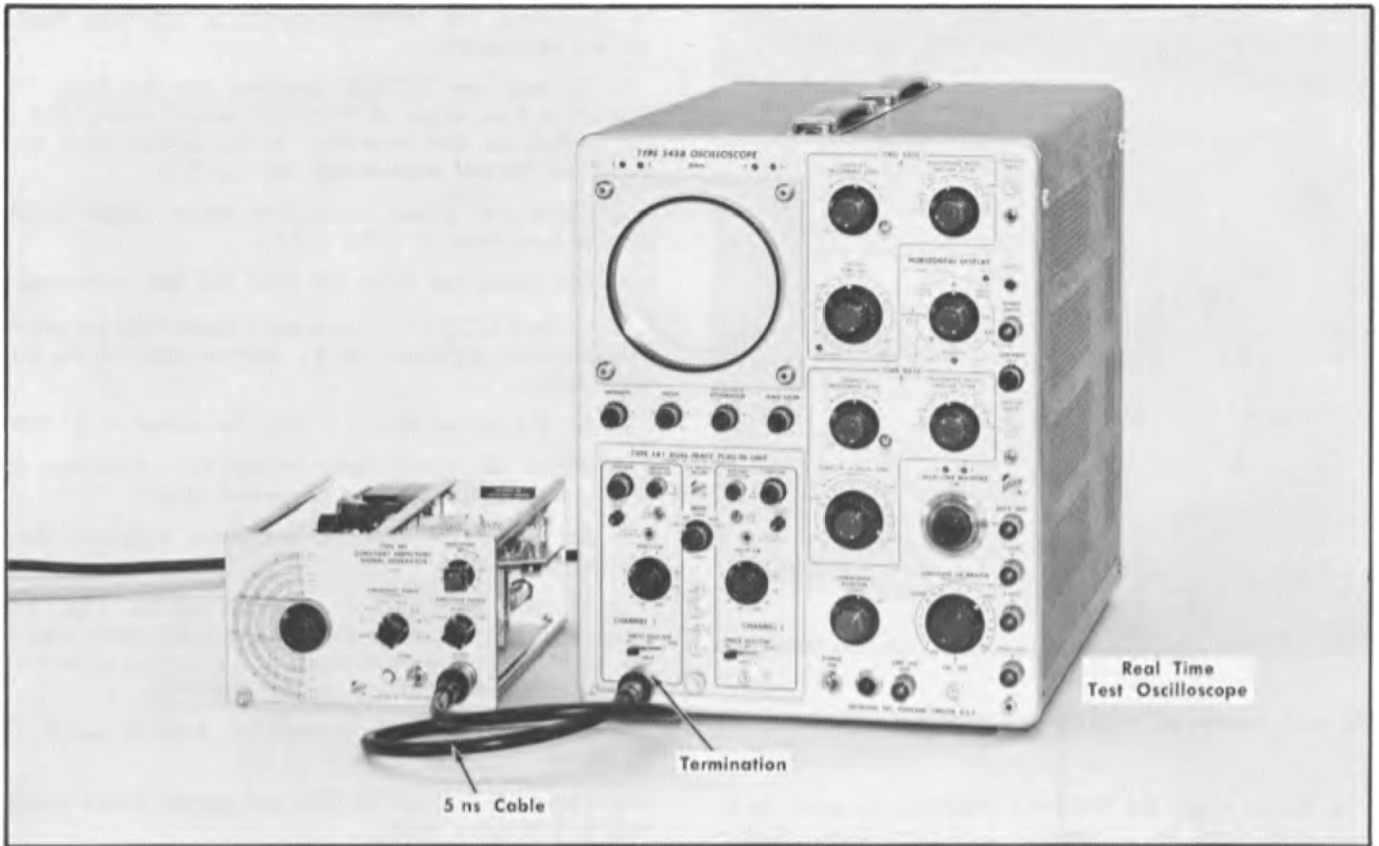

Fig. 6-13. Type 191 connection to real time test oscilloscope.
f. Connect the OUTPUT connector on the Type 191 through a 5 ns length of RG-8A/U coaxial cable, and a GR to BNC 50 ohm termination to the vertical input connector on the test oscilloscope; see Fig. 6-13.
m. Connect the OUTPUT connector on the Type 191 through a 5 ns length of RG-8A/U coaxial cable, and a GR to BNC 50 ohm termination to the vertical input connector on the test oscilloscope; see Fig. 6-13.
u. Connect the OUTPUT connector on the Type 191 through a 5 ns length of RG-8A/U coaxial cable, and a GR to BNC 50 ohm termination to the vertical input connector on the test oscilloscope; see Fig. 6-13.